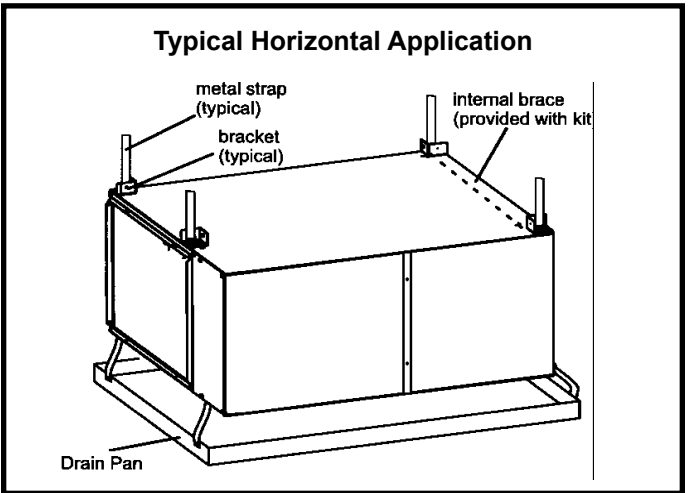
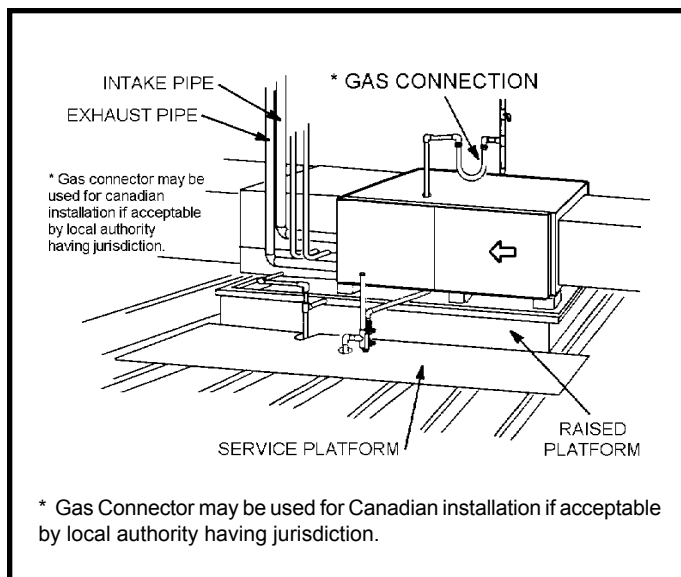

Figure 12
Figure 13
This furnace may be installed in either an attic or a crawlspace. Either suspend the furnace from roof rafters or floor joists, as shown in Figure 12 or install the furnace on a platform, as shown in Figure 13. A horizontal suspension kit (51W10) may be ordered or use equivalent.
2. Construct a raised wooden frame and cover frame with a plywood sheet. If unit is installed above finished space, fabricate an auxiliary drain pan to be installed under unit. Set unit in drain pan as shown in Figure 13. Leave 8 inches for service clearance below unit for condensate trap, unless trap is installed remotely.